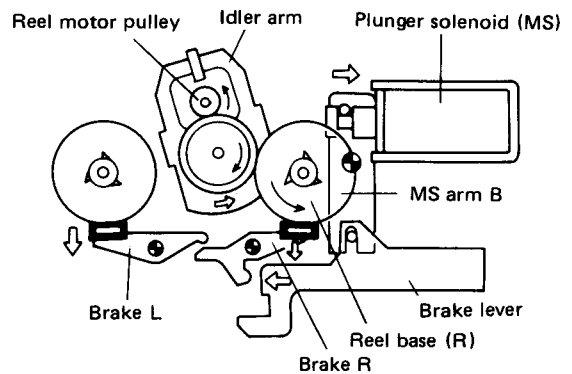

Fig. 4-7 Fast forward operation with MS mechanism
In Fig. 4-7, the plunger solenoid (MS) has been activated and the reel motor is rotating counterclockwise. As soon as this solenoid is activated, the brake lever moves to the left, thereby releasing brake R and brake L. Due to the reaction to the counterclockwise rotation of the reel motor, the idler arm moves towards reel base (R), and the take-up idler is pressed against reel base (R) which is thus rotated.